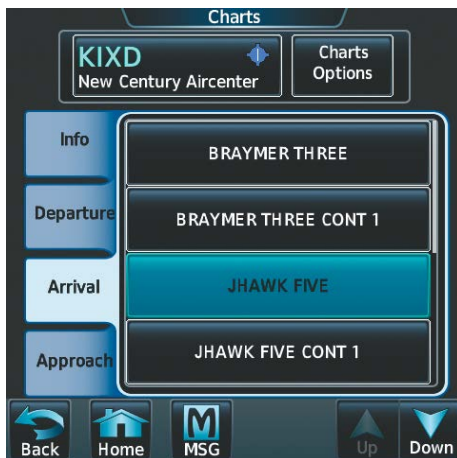

Figure 8-21 Airport Diagram Selection
- 3) Touch the **Info** Tab to display the airport information selection buttons for the selected airport (Figure 8-21).